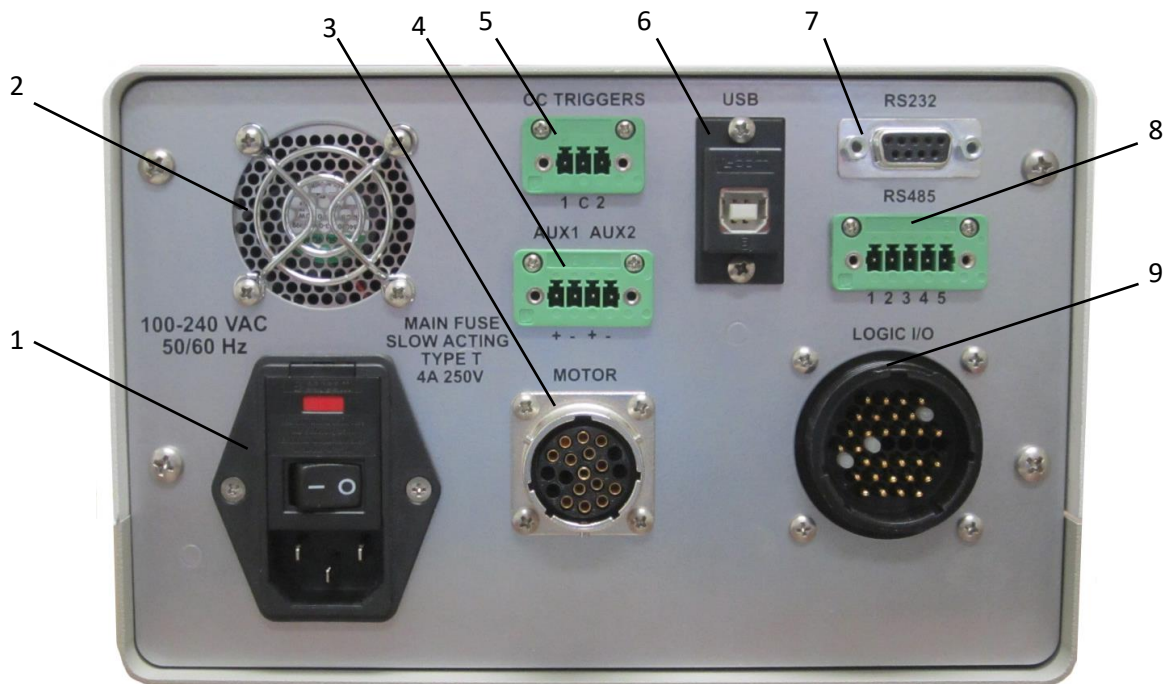

Figure 3.2 Digispense 3009 Controller Module Rear Panel
**3.1.2 Rear Panel Detail (Figure 3.2)**
**3.1.2.1 Power Entry Module (Figure 3.2 Item 1)**
**3.1.2.2 Fan (Figure 3.2 Item 2)**
### 3.1.2.3 MOTOR Connector (Figure 3.2 Item 3)
### 3.1.2.4 AUX1 AUX2 Connector (Figure 3.2 Item 4)
### 3.1.2.5 CC TRIGGERS Connector (Figure 3.2 Item 5)
### 3.1.2.6 USB Connector (Figure 3.2 Item 6)
### 3.1.2.7 RS232 Connector (Figure 3.2 Item 7)
**3.1.2.8 RS485 Connector (Figure 3.2 Item 8)**
**3.1.2.9 LOGIC I/O Connector (Figure 3.2 Item 9)**